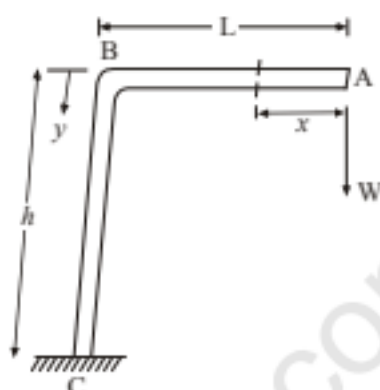

Fig.3
8. A structure is shown in Fig. 3. Assuming the member to be of uniform cross-section throughout find :